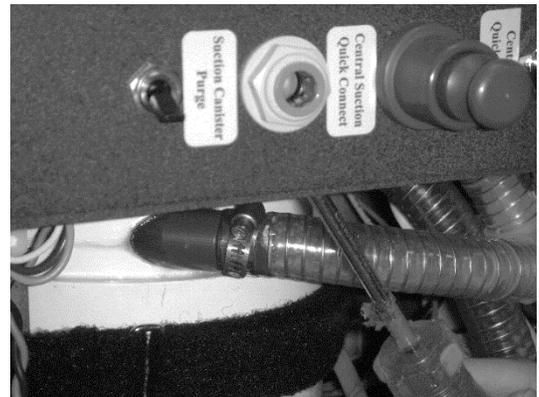

Fig. 7
Step 6 - **For bottom and side drains**, follow the black tubing to where it connects behind the port labeled, “*Suction Canister Purge*”. The connector is the same as shown in Fig. 7.